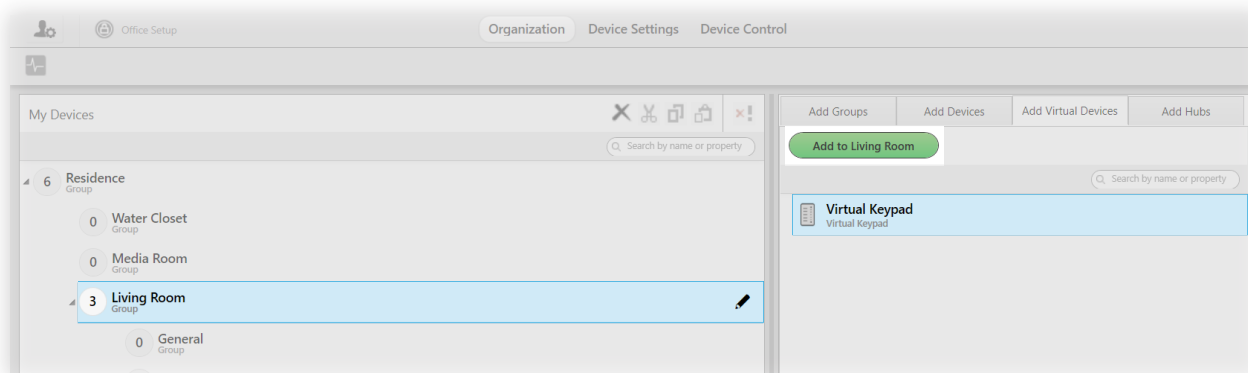

fig. 30
- 2 **Highlight the destination group in the grouping hierarchy and click Add to Group.** (See fig. 30.)